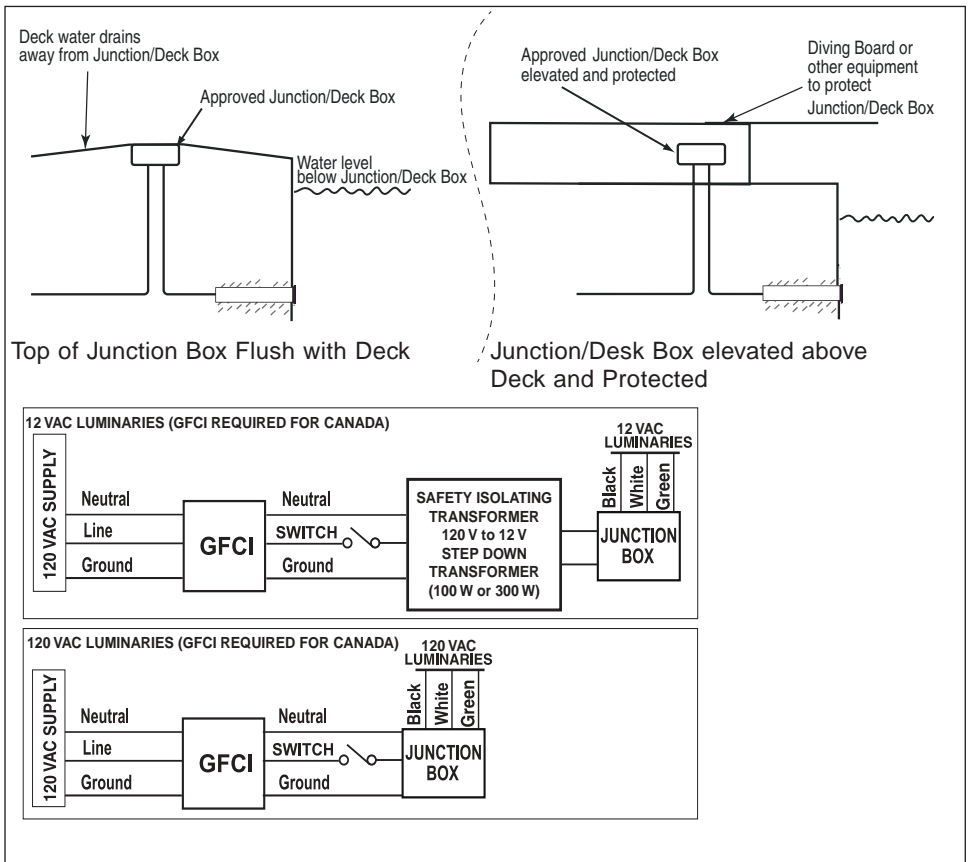

Figure 2, Canada.
- 120 VAC and 12 VAC lights **must have** a Ground Fault Circuit Interrupter (GFCI), and have an appropriately rated circuit breaker. Figure 2 on page 8.
- The GFCI or a transformer must be located at least 3 m (10 ft) or more from the edge of the pool, see \*NOTE and Figure 2 on page 8.
- The junction/deck box must be sealed to the conduit to prevent water from getting into the box, see Figure 2 on page 8.
**IMPORTANT! 120 VAC AND 12 VAC POOL/SPA LIGHTS MUST HAVE A GFCI CONNECTION. SEE FIGURE 2 BELOW.**